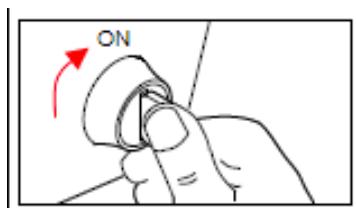

Figure 19
- Turn the ignition on. **DO NOT** start the engine. (Figure 19)